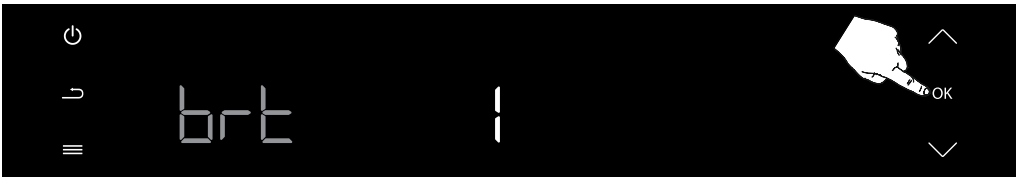

Figure 87
Press the Confirm button (OK) once to confirm the brightness setting. (see figure 87)